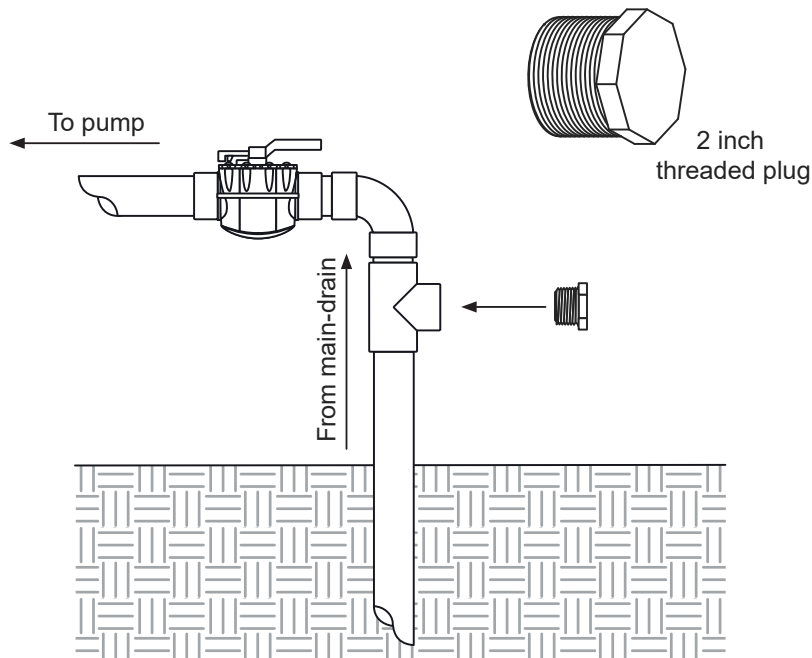
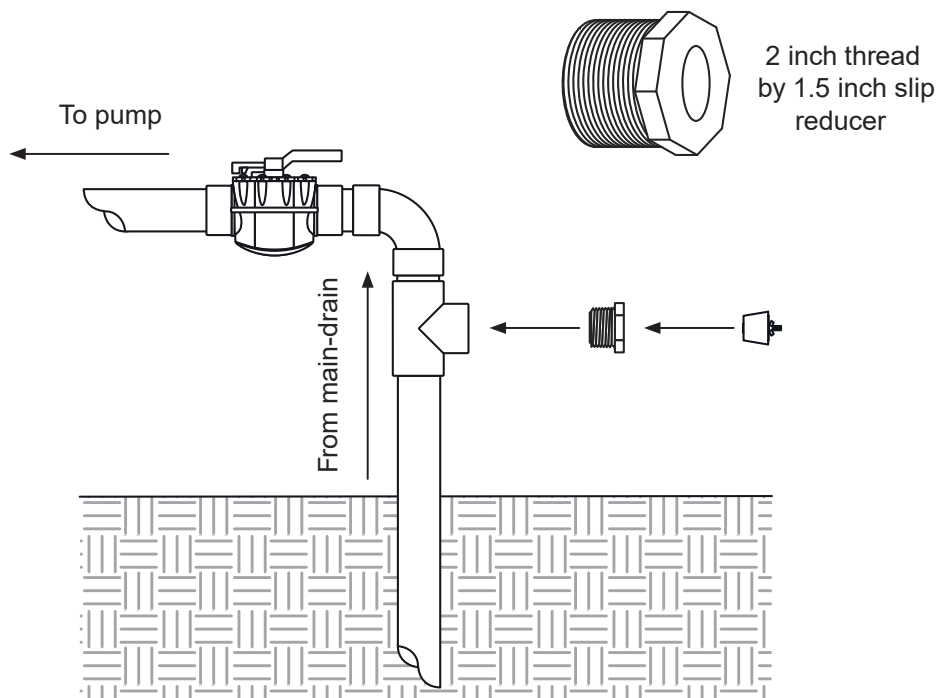

Figure 23.
Figure 24.
2. Between the 2-Way shut-off valve and the drain, install a Tee fitting with a 2 inch threaded branch. This will allow a 2 inch threaded plug to be removed later during the winterization process (Figure 23).
4. Remove the 2 inch threaded plug (Figure 23) and replace it with a 2 inch thread by 1.5 inch slip reducer bushing (Figure 24).